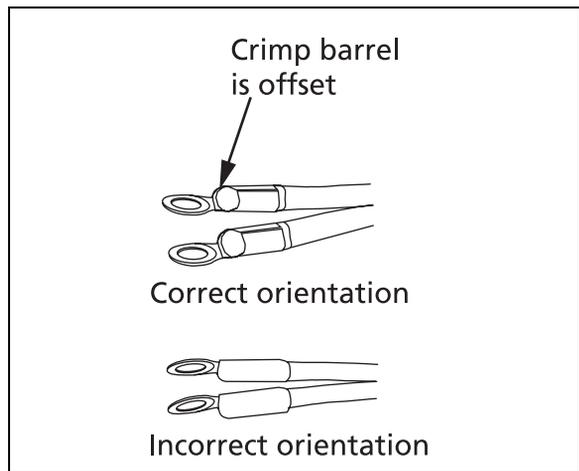

Figure 9. Orientation of Line Cord Screw Lugs
- 1 From the outside of the housing, slide the screw lugs of a new line cord through the hole in the end of the test set housing. Make sure the crimp barrel offset side of the screw lugs is up (see Figure 9) and that the line cord screw lugs are flush against the circuit board.